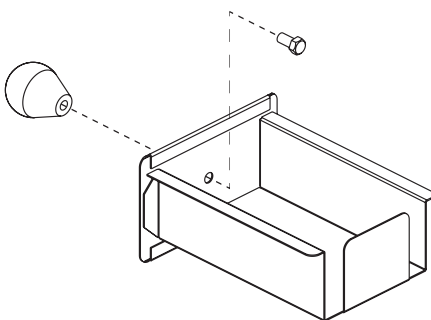

FIGURE 5
Install one 1/4-20 x 1/2 hex head BOS into drip pan drawer assembly (2) and tighten knob (1). Figure 5.